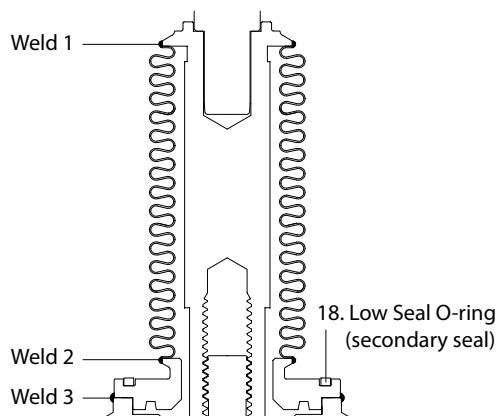

Figure 1.
Bellows subassembly (Figure 1)
This allows monitoring sealing condition of weld 3 (Figure 1) and low seal O-ring (18).